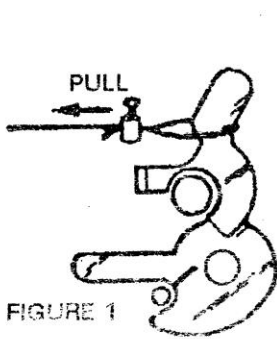

FIGURE 1
1. *with the trunk open. turn the key and notice the action of the lock lever. and the direction it must travel to unlock, Attach the hook assembly to the lock arm by means of filing a notch or drilling a hole in the lever (Fig 1 & 2). Be careful when doing this as in some installations the lever mechanism must be removed from the trunk lid.*